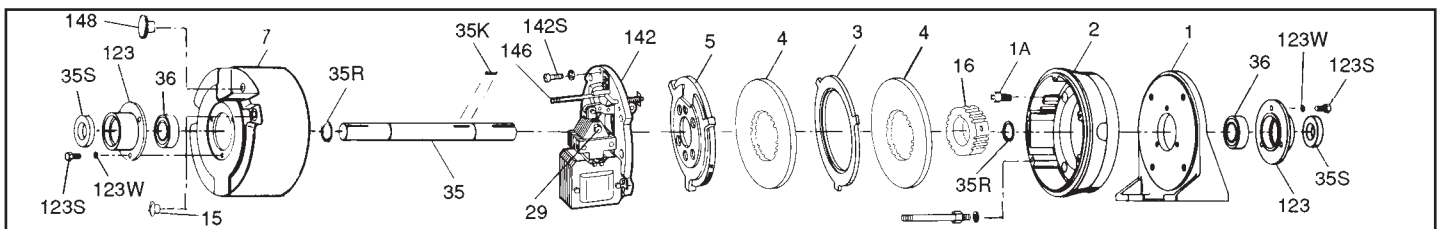
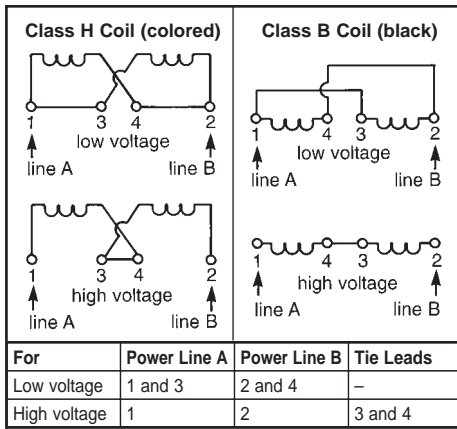

Figure 1A
Figure 4
## II. Installation Procedure - 87,200 (See Figure 1A)
As shown in the exploded view, Figure 1A, the 87,200 Brake is very similar to the motor mounted 87,000 Series. It is, however, a self-supported, foot mounted unit, with an integral bearing supported through-shaft. Since disassembly is not required prior to mounting, installation is simplified.
1. Dual voltage coils may be factory pre-connected for high voltage with wire nuts. Checking coil connection is suggested. On the 87,200 only, coil lead wire termination is accessible at lead wire outlet of endplate (2). Four lead style are marked on leads for connection per Figure 4. Two unmarked leads mean preconnection made for high voltage. If reconnection of a dual voltage
coil is required (two unmarked leads) on the 87,200, housing (7) must first be removed per Section and Figure 1A. Reconnect coil for appropriate voltage as shown in Figure 4. Bring out line leads.
2. On single voltage coils, connect coil to any two leads on single or three-phase motors of the same voltage as the brake. Refer to brake nameplate and coil number for correct voltage and frequency. See Figure 4 for dual voltage coil connection and connect to any two leads of single or three-phase motor of the same voltage. The brake can also be wired to external switch contacts providing proper voltage other than that used to control the motor. Normally, the motor and brake contacts are interlocked.